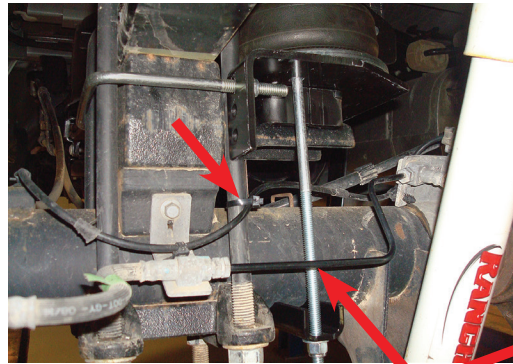
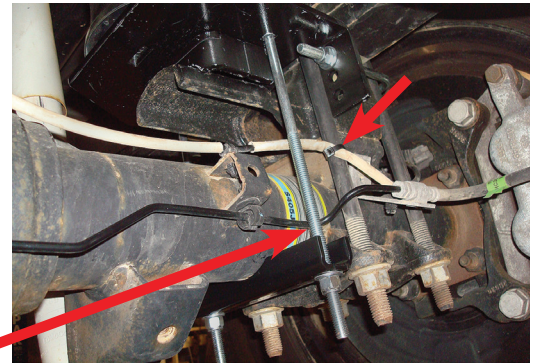

fig. D.20
fig. D.21
On the driver's (left) side, the long carriage bolt in the lower bracket main plate should be located between the hard brake line and axle (Fig. D.20). On the passenger's (right) side, the carriage bolt should be located on the backside of the brake line (Fig. D.21).
6. Figures D.20 & D.21 show the lower bracket installed.
IT WILL BE NECESSARY TO PUSH THE HARD BRAKE LINE AWAY FROM THE LOWER BRACKET CARRIAGE BOLT IF THE LINE IS RESTING ON IT (FIGS. D.20 & D.21).